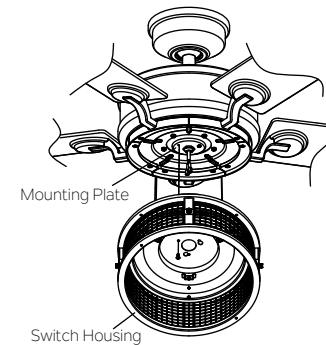

Fig. 19
**Step 1.** Remove this screw preinstalled on mounting plate and loosen the other two (do not remove). Place the two slot holes on the switch housing over the 2 screws previously loosened from the mounting plate. Rotate the switch housing until it locks in place at the narrow end of the key holes. Securely by tightening the 2 screws previously loosened and the one previously removed.(Fig. 19)